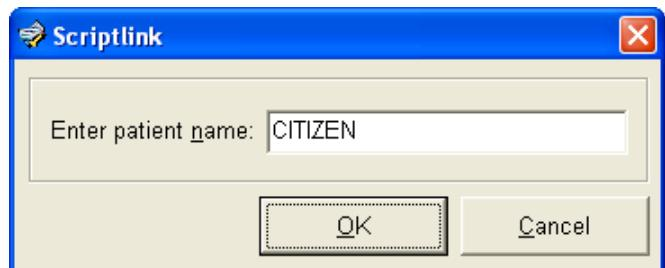

Figure 38
- Key in any script items by pressing the '*' key to display the 'Scriptlink' window (Figure 38).